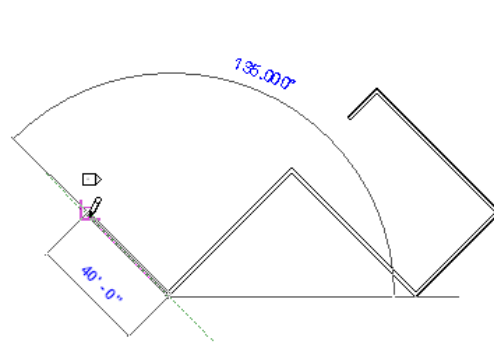

Figure 2-40 Sketching the sixth inclined wall segment
10. Next, create the connected wall segment of 40'0" length, as shown in Figure 2-40.